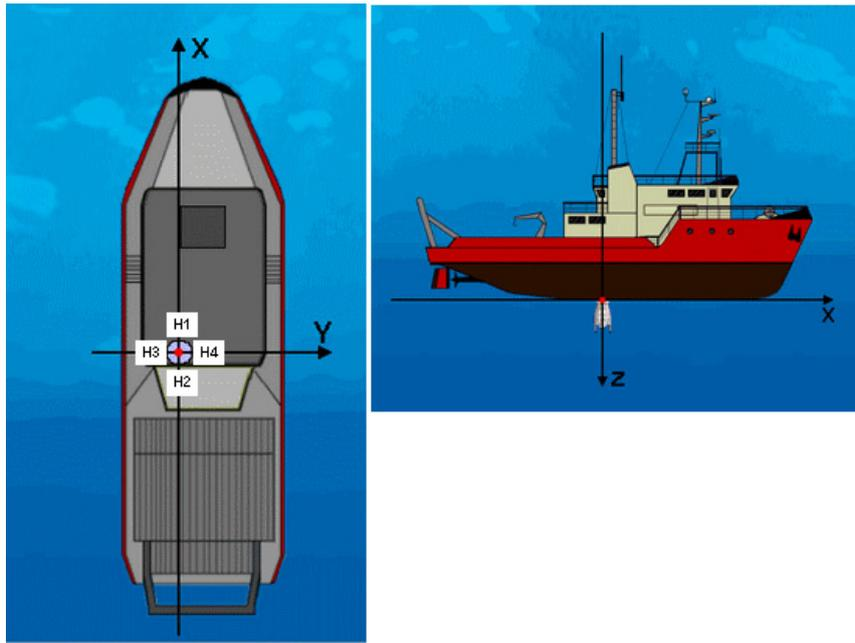
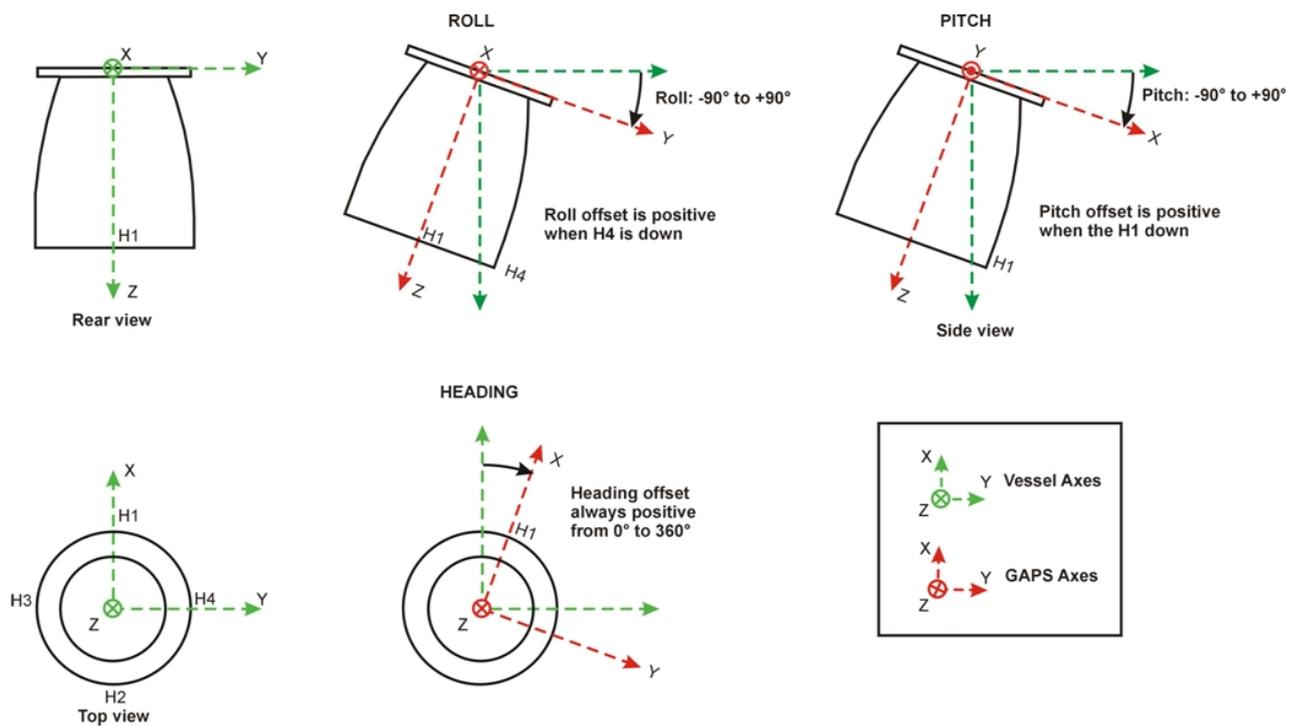

Figure 12 - GAPS reference axes
Figure 13 - GAPS angular offsets
**Reference Axes** The axes in the GAPS reference frame are as follows (see Figure 12 and Figure 13):
TO INSURE COMPATIBILITY WITH OUR EXISTING SYSTEMS AND SOFTWARE, THE CONVENTION USED FOR THE X AND Y AXES (SEE FIGURE 12 AND FIGURE 13) MAY BE DIFFERENT FROM THE CONVENTION USUALLY USED (X TO THE BOW, Y TO PORT, Z UPWARD).